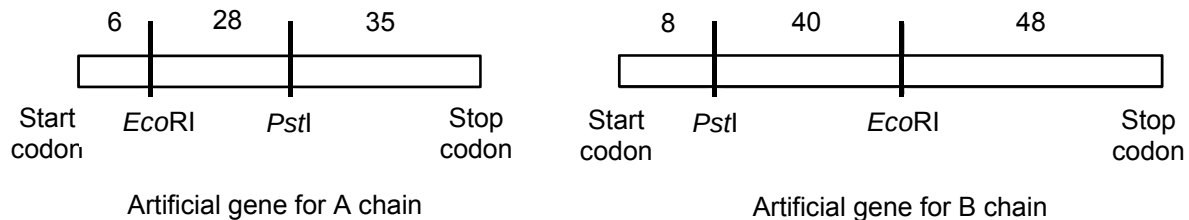
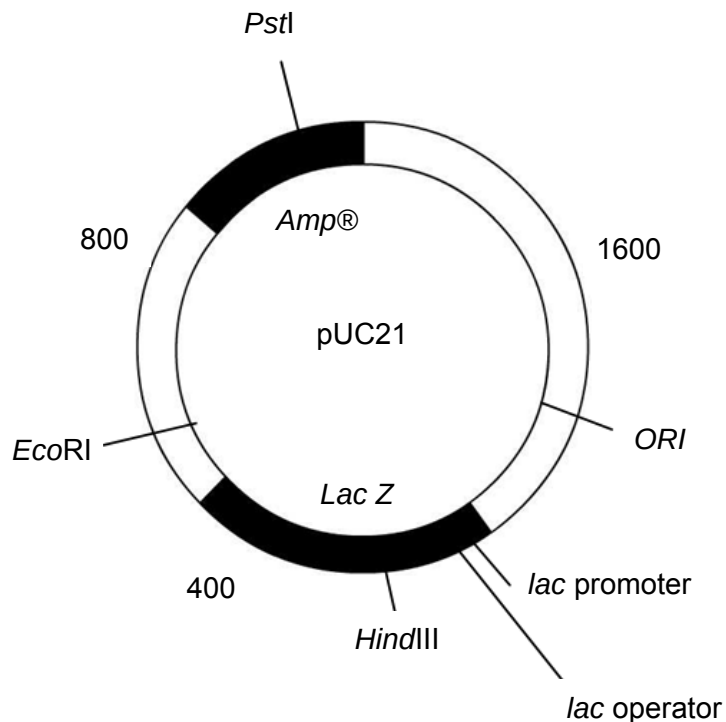

Fig. 2.1
Fig. 2.2
Insulin is a relatively small protein comprising two polypeptides, one of 21 amino acids (the A chain) and one of 30 amino acids (the B chain). Trinucleotides representing all the codons are synthesized and joined together to form two artificial genes for the respective chains. Fig. 2.1 shows the two artificial genes, including the positions of the recognition sequences of two restriction enzymes, *Pst*I and *Eco*RI, and distances (in base pairs) between the sites.
Each artificial gene is cloned into a separate bacterial plasmid pUC21, using the restriction enzyme *Hind*III, and placed under the control of a strong *lac* promoter. Fig. 2.2 shows the plasmid map of pUC21. It includes the positions of the restriction sites for the three restriction enzymes, *Pst*I, *Eco*RI and *Hind*III, and distances (in base pairs) between the sites. The shaded regions represent two marker genes, *Amp*^R and *lac* Z.
- (e) With reference to Fig. 2.1 and Fig. 2.2, complete Table 2 by identifying the particular restriction enzyme used for digestion of the respective plasmid DNA. [2]
- (f) With reference to Fig. 2.1, Fig. 2.2 and Table 2, state the appropriate restriction enzyme that has to be used for the digestion of the respective plasmid DNA in order to determine which has the artificial genes inserted in the correct orientation.